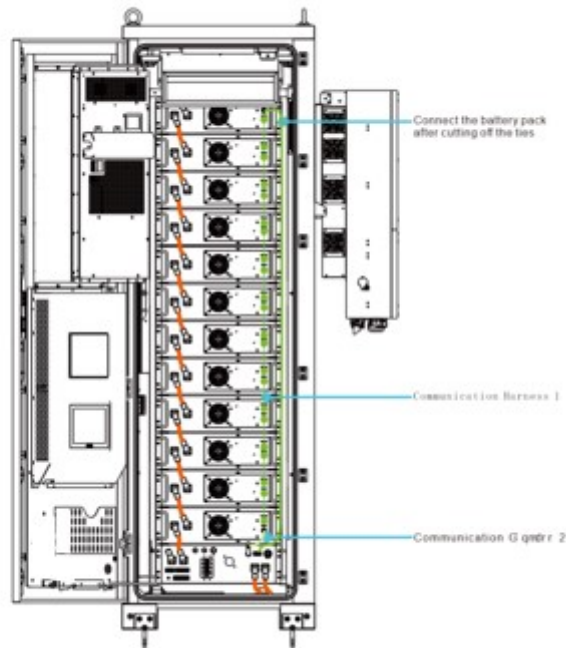

Fig.4-22 Connection Harnesses
Step2: Take 1PCS of Power Harness2 and connect it to the battery pack and HVbox as shown in Figure 4-22, the cables need to be installed in place, when you hear a “click”, it will be installed in place.